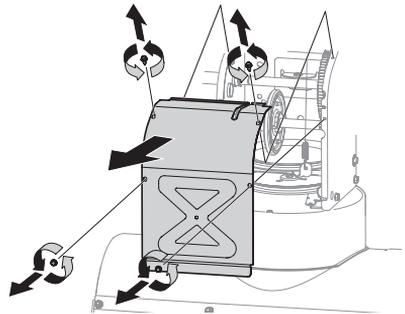
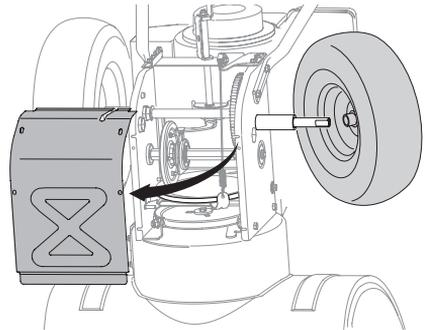

Figure 78
Figure 86
3. Remove frame cover from underside by removing self-tapping screws (Figure 78).
5. Remove frame cover from underside by removing self-tapping screws (Figure 78).
3. Remove frame cover from underside by removing four self-tapping screws (Figure 78).
5. Using the four self tapping screws, reinstall the frame cover (Figure 78).
4. Remove frame cover from underside by removing self-tapping screws (Figure 78). Remove right-hand wheel by removing screw and bell washer which secure it to axle. See (Figure 86).